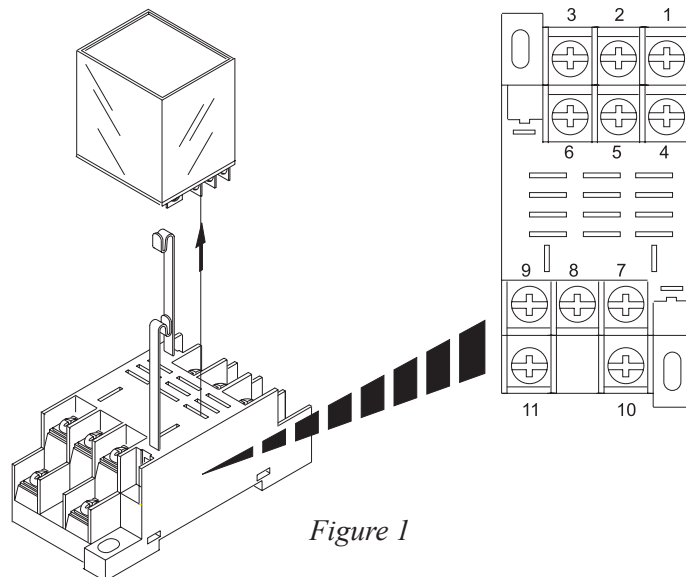

Figure 1
1. Remove the relay (P/N 11-696644-000) from the relay base (P/N 11-696645-000). Refer to *Figure 1*.